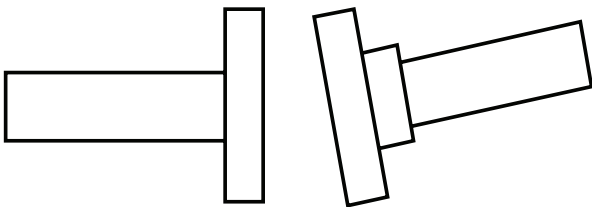

Figure 44 – Angular Misalignment
5. Check angular and axial misalignment between the drive shaft and both the motor and gear couplings (see **Figure 44** and **45**).